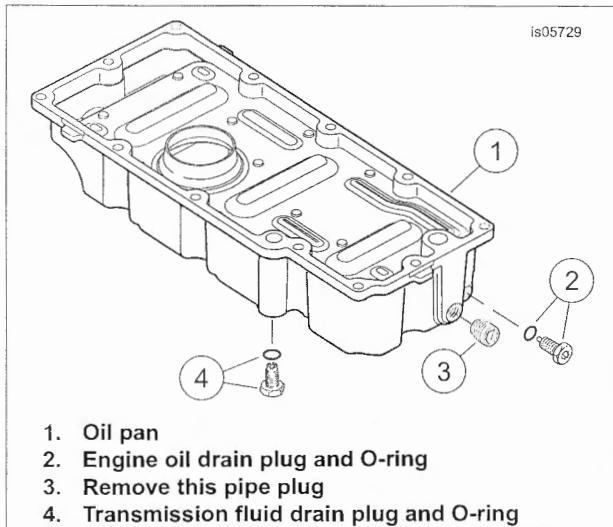

Figure 1. Oil Pan and Plugs, FL Touring Models
1. See Figure 1. Remove the unused pipe plug (3) (**NOT** the engine oil drain plug, item 2) from the left front of the oil pan.